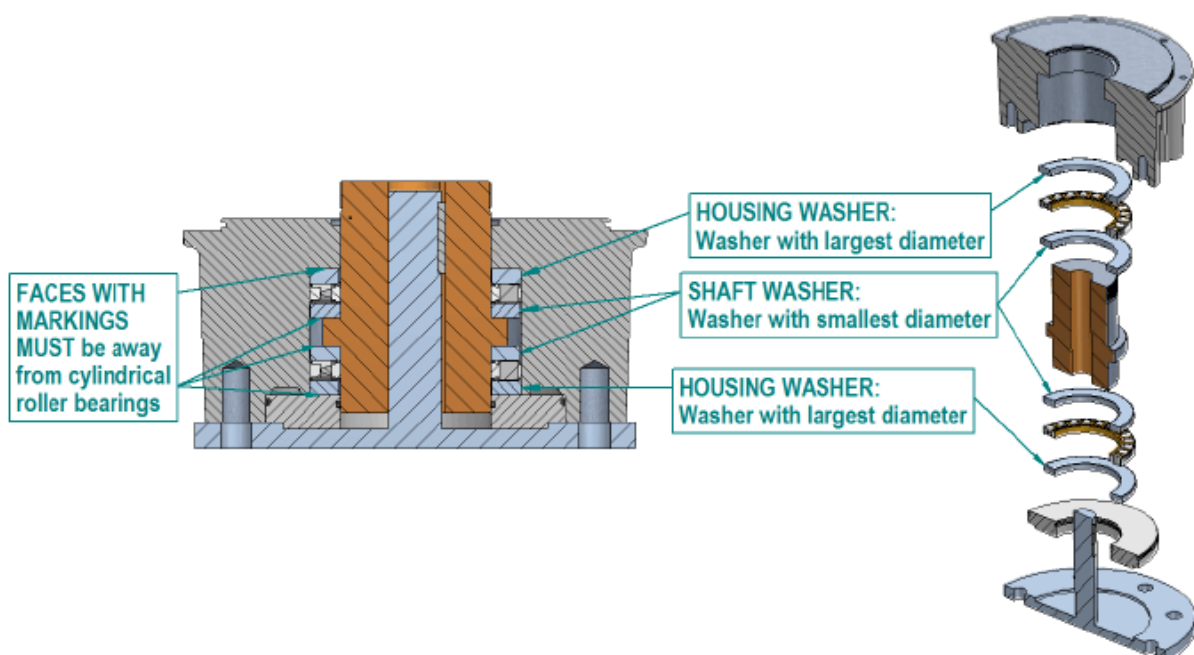

Figure 123: Valve Stem Assembled
For gearboxes with cylindrical roller bearings or gearboxes IB14 and IS14, IS16, and IS18-IS21 It is recommended that the machined output sleeve assembly is assembled on the valve stem/shaft first and then the actuator-gearbox combination lowered to locate on the output sleeve assembly. See Figure 123 for assembly details.
1. Fit as follows; Spigot ring, housing washer (largest outside diameter), bearing, shaft washer (smallest outside diameter), output sleeve, shaft waster (smallest outside diameter), bearing then finally the housing washer (largest outside diameter) on to the valve shaft as shown in the Figure 123 below. The washer faces that are either chamfered or have markings **MUST** face **AWAY** from the bearings to decrease wear on the bearing. Bearings should be greased with the appropriate grease. Grease the output sleeve and valve stem/shaft. Note that the spigot ring has an internal and external seal that should also be greased. See step 2 for further instructions.